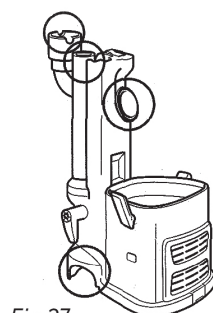

Fig.27
- Remove the dust cup and extension wand and separate the portable Lift-Away® canister from the motorized floor brush. Look in all 4 openings for any blockages. (Fig. 27 )